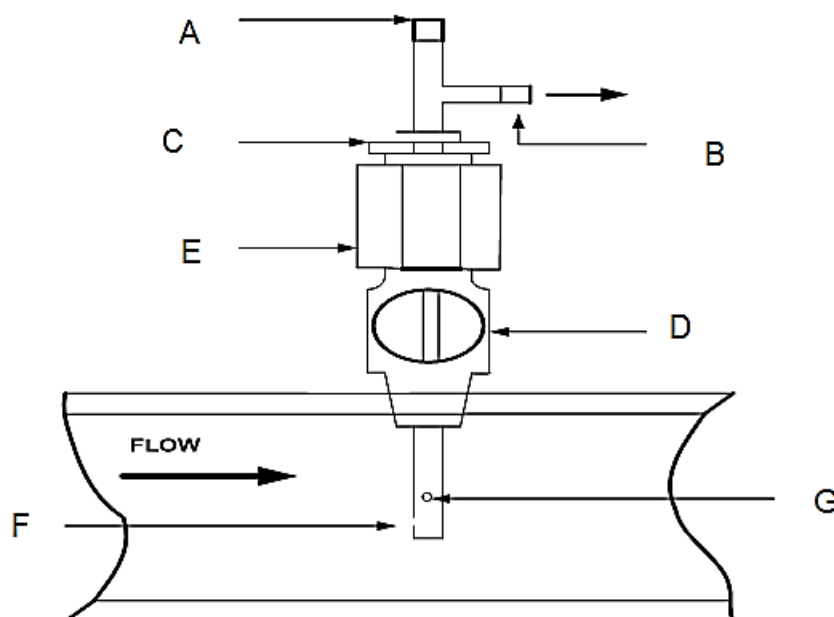

FIGURE 1
- 2.1 Name the instrument shown in FIGURE 1 below.